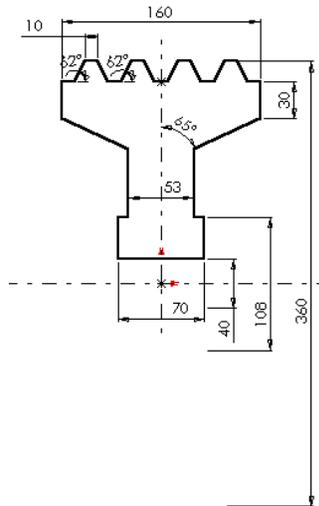

Figure 4-43 Sketch for the revolved model
- a. Open the sketch of Exercise 1 of Chapter- 3, refer to Figure 4-43.
4. Enter the name of the document in the **File name** edit box as *c04-tut02.SLDPRT*. Choose the **Save** button to save the file. The sketch that will be displayed on the screen is shown in Figure 4-43.